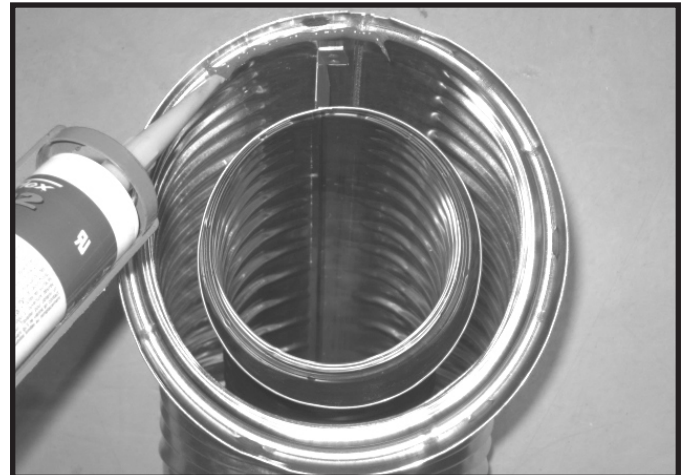

Figure 7.1 High Temperature Silicone Sealant
- Apply a bead of silicone sealant (300 °F (149 °C) minimum continuous exposure rating) inside the female outer pipe joint prior to joining sections. See Figure 7.1. **OR**